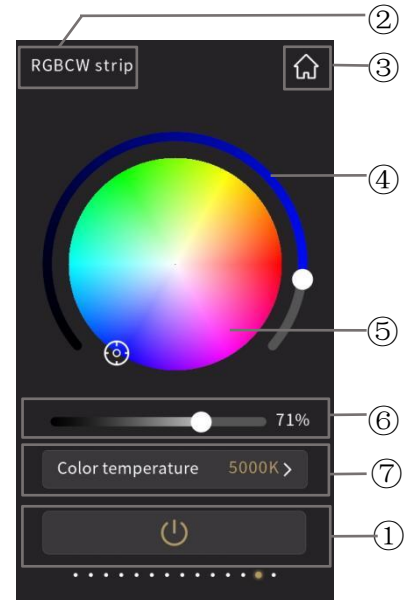
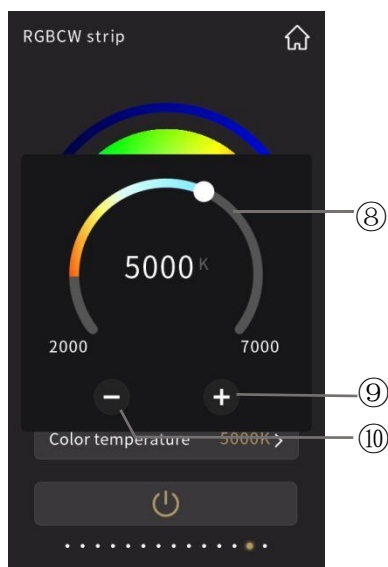

Fig.2.7.3
Fig.2.7.4
When RGB dimming is configured as RGBCW, function page interface is similar to RGB but more a slider⑥ and colour temperature control⑦, as shown in Fig.2.7.3.
⑦ Pop up the window as shown as Fig.2.7.4 by touch this area;
⑧ This ring slider is to adjust the colour temperature of RGB lamp;
⑨ Decrease the colour temperature value by touching this icon;
⑩ Increase the colour temperature value by touching this icon;
Colour temperature control interface shown as Fig.2.7.4, by sliding the ring slider⑧ or touching the icon⑨ and icon⑩ to control the colour temperature of RGB lamp, the adjustment range for each touch of icon⑨ or icon⑩ is 100K. After finishing the adjustment, touch the area outside the sub-window to return to the previous level function page, as shown in Fig.2.7.3. The maximum adjustable rang of colour temperature is limited in 2000~7000K, which can be modified by the parameters.